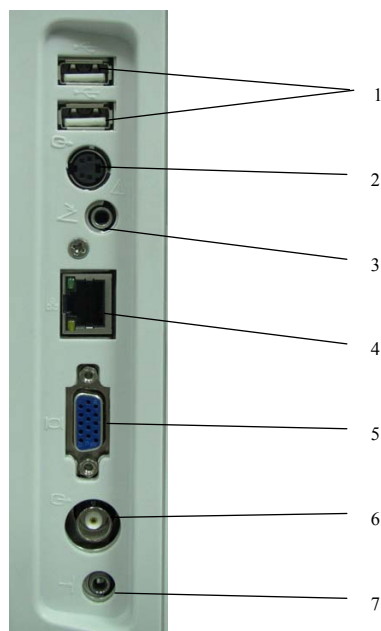

Figure 4-7 I/O Ports on the Left Panel
4. Parts and accessories must be connected to the I/O ports designated in Figure 4-7. For example, only the supplied or recommended USB device can be connected to the USB ports; DO NOT connect telephone line to the network port; DO NOT connect earphone to the footswitch port or remote port.
Reference Figure 4-7 I/O Ports on the Left Panel.